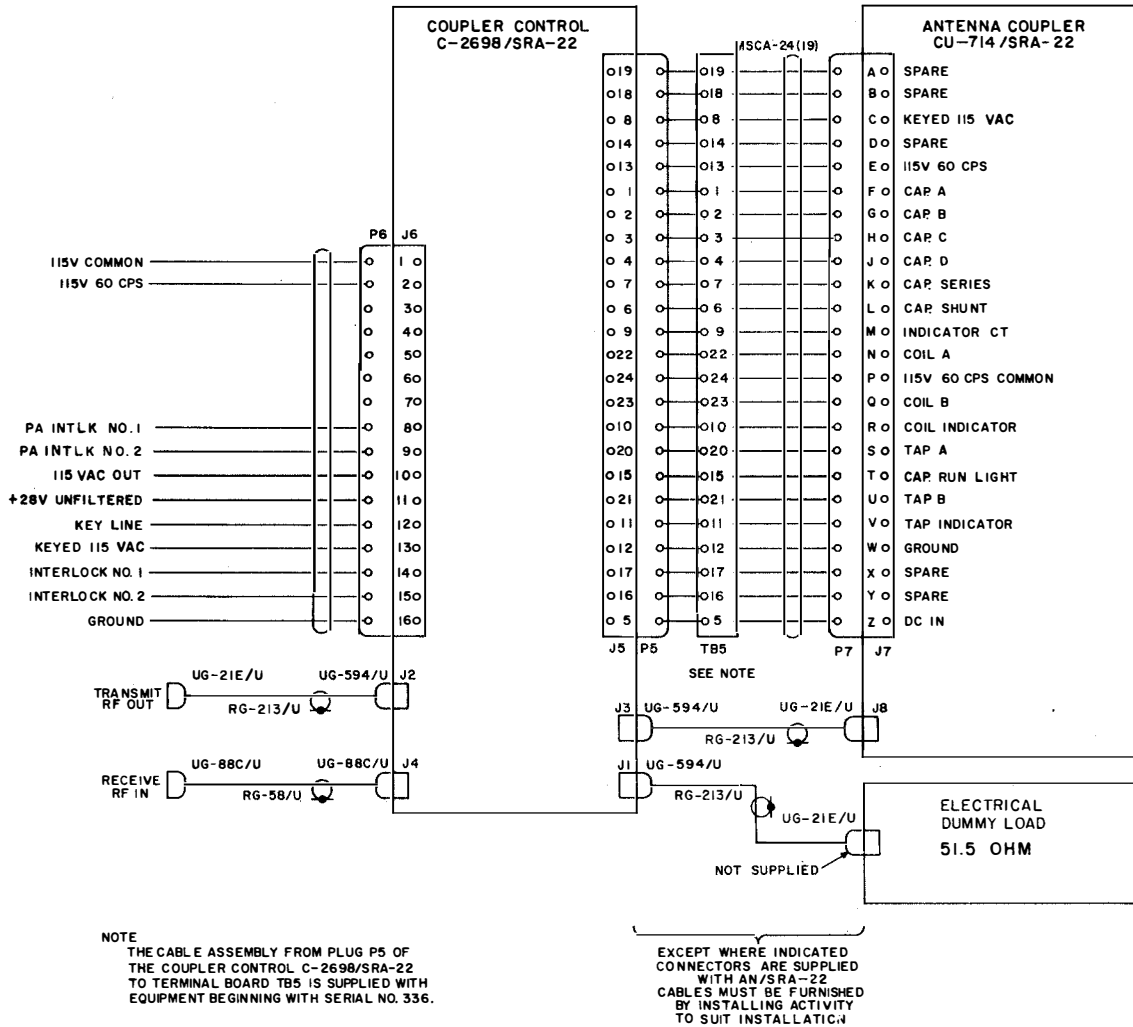
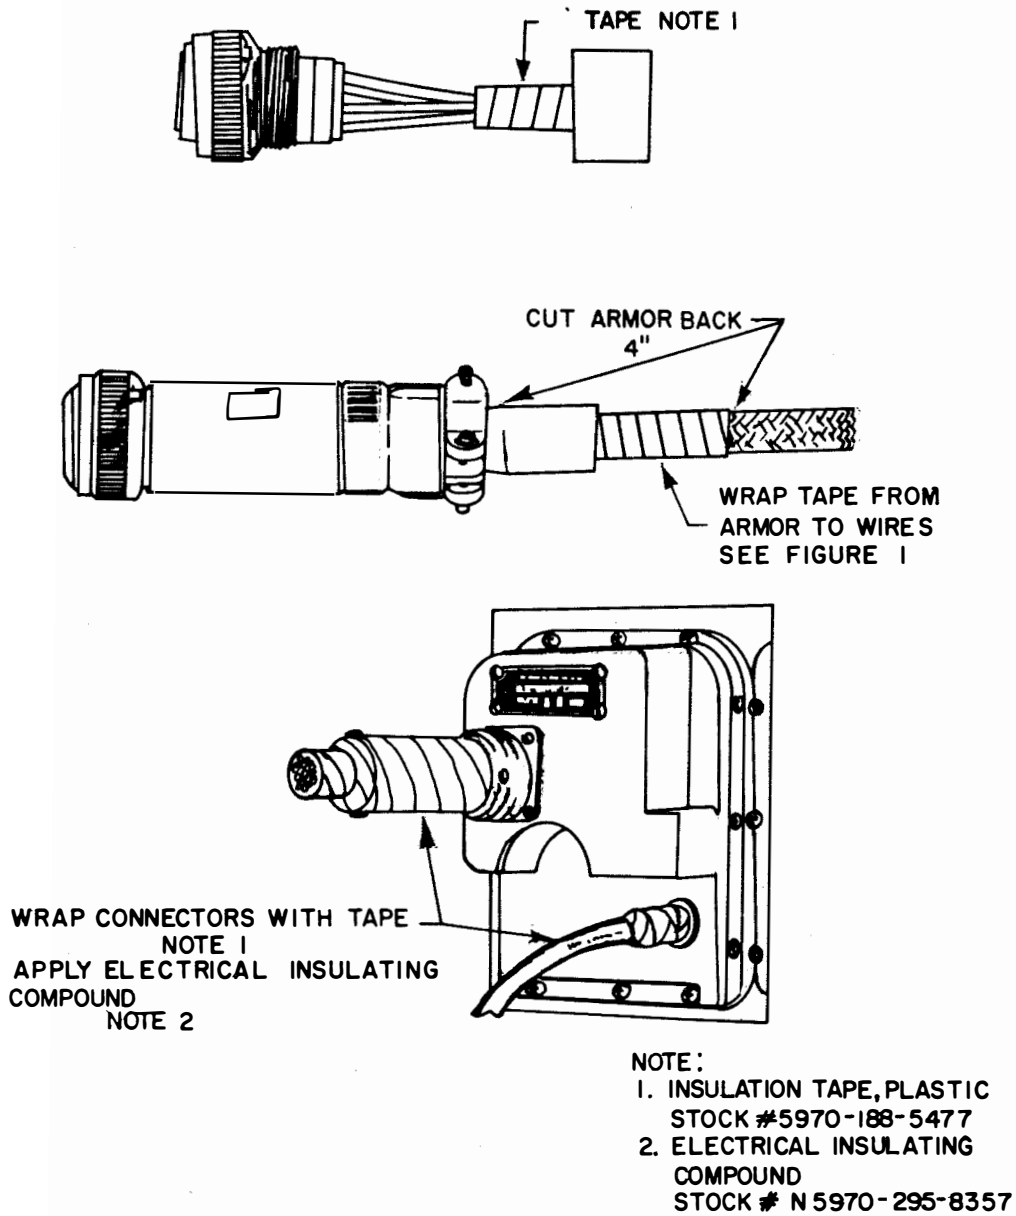

Figure 7-4. Interconnecting Diagram of Antenna Coupler Group AN/SRA-22 for Use as Separate Unit
Figure 7-5. Antenna Coupler CU-714/SRA-22 Weatherproofing Procedures
(3) INTERCONNECTING DIAGRAMS. — Figure 7-3 is an interconnecting diagram of Antenna Coupler Group AN/SRA-22 for use with Radio Set AN/XXX. Figure 7-4 shows an interconnecting diagram of the antenna coupler group for use as a separate unit with other transmitters. Cable requirements are given in table 7-1.
(4) CABLE ASSEMBLY. — Install type-N connectors on the RG-213/U and/or RG-215/U type cables. Install 16-pin plug 2P6 on one end of No. 22 AWG multiconductor interconnection cable when Antenna Coupler Group AN/SRA-22 is used with equipment other than Radio Set AN/XXX. Cut cable to the required length for specific installation. Install 24-pin plug 2P5 on one end of cable, and terminate the other end of the cable to terminal board TB-5. Install a 24-pin round plug 1P7 on another 22-AWG multiconductor interconnection cable, and terminate the other end of this cable to terminal board TB-5. For instructions on installing the connectors and plugs to the cables, refer to Electronics Installation and Maintenance Book, NAVSHIPS 0967-000-0113.
(5) WEATHERPROOFING. — The 24-pin round plug 1P7 and the type-N connector that terminate at the antenna coupler must be weatherproofed. Figure 7-5 weatherproof procedures. Cut the armor back 4 inches from back of plug 1P7. Wrap completely with two layers of plastic tape with 50-percent overlay between turns from armor to wires connected to the plug. Hand-tighten the connector to the antenna coupler. Wrap completely with several layers of plastic tape with 50-percent overlay between turns. Extend plastic tape 5 inches beyond end of the connector. Seal the taped connector with one coat of electrical insulating compound. Extend 1 inch beyond the plastic tape impregnating the armor.
(1) Check grounding of the antenna coupler case to the ship or ship grounding system. It is most important to have a good ground for the antenna coupler. A solid copper strap, illustrated in figure 7-5, not less than 3/4-inch wide and secured with 1/4-20 (or larger) bolts, should be installed for bonding the case to the ship hull. See Shipboard Interference Reduction, NAVSHIPS 900,171, for grounding specifications.
(2) Set TAP COARSE TUNE-FINE TUNE switch on coupler control to COARSE TUNE and note if TAP indicator meter changes reading.
(3) Set COIL COARSE TUNE-FINE TUNE switch on coupler control to COARSE TUNE and note if COIL indicator meter changes reading.
(4) Set LOAD-ANT switch on coupler control to LOAD position. (Make sure that a dummy load is connected to the coupler control.) Refer to paragraph 2-3b(1) and perform the procedures as outlined.